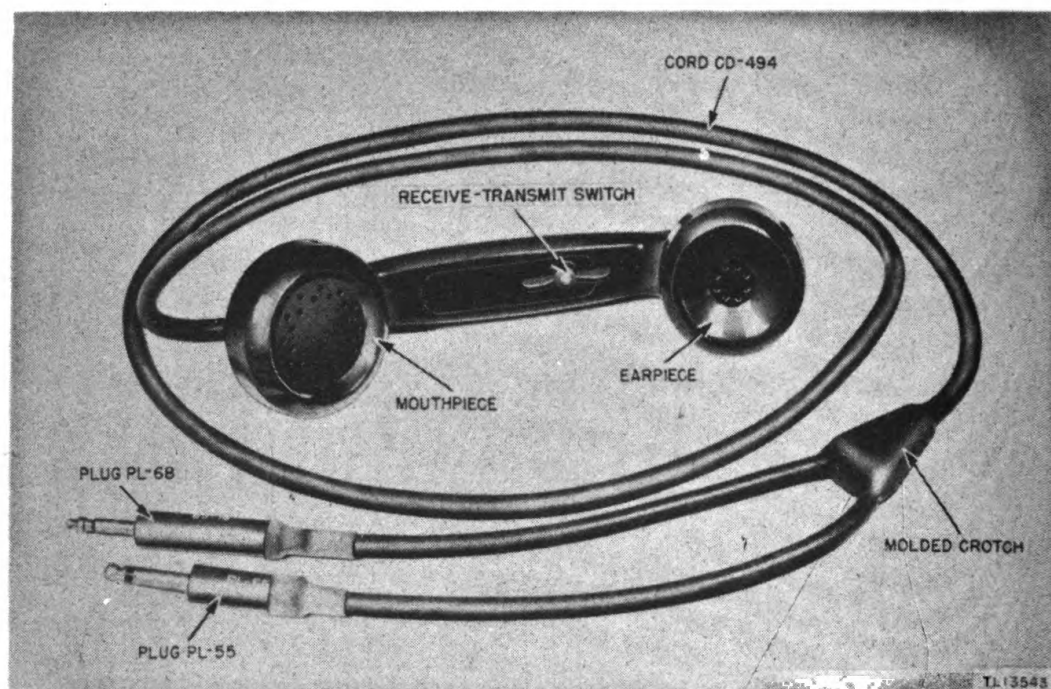

Figure 12. Handset H-23()/U.
10. HANDSET H-23()/U (fig. 12).